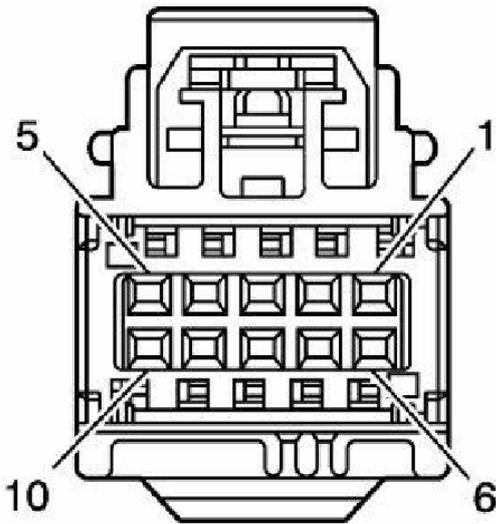

Figure 9 - S48E Multi-Function Switch Connector
5. Connect the cables (3 and 10) for the multi-function switch at the gear box console, see Figure 9 and Figure 14.